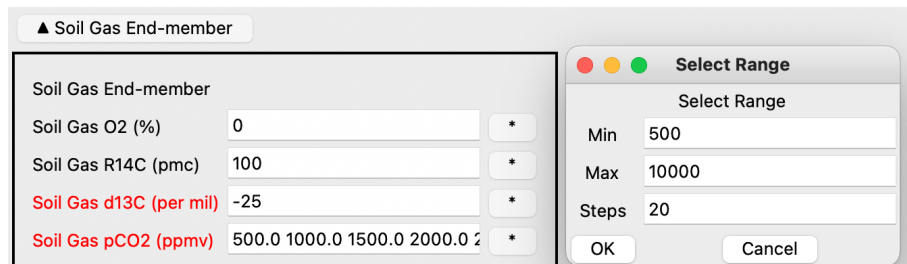

Figure 2: Example of varying an input in steps. This functionality facilitates the generation of multiple models.
- Click the asterisks (\*) next to certain inputs can generate linearly spaced arrays of input values, allowing you to run multiple models (Figure 2).